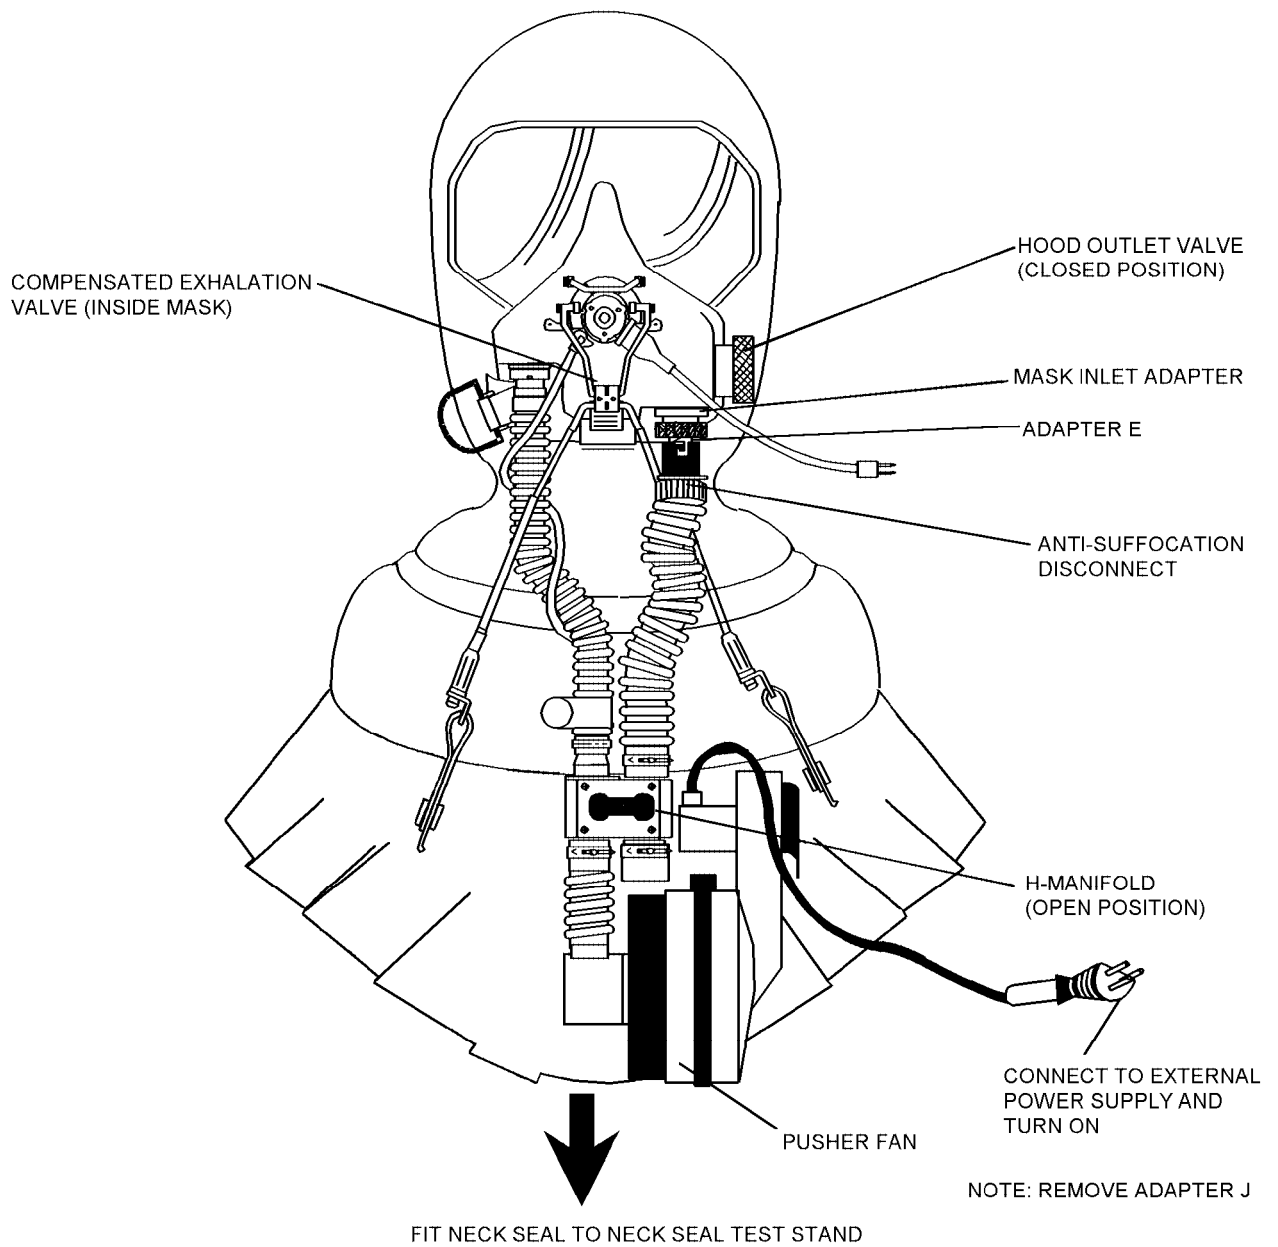

Figure 4-84. (V)1 Variant - Non-Oxygen Compensated Exhalation Valve - Functional Test
3. Connect adapter E between the anti-suffocation disconnect and mask inlet adapter (figure 4-84).